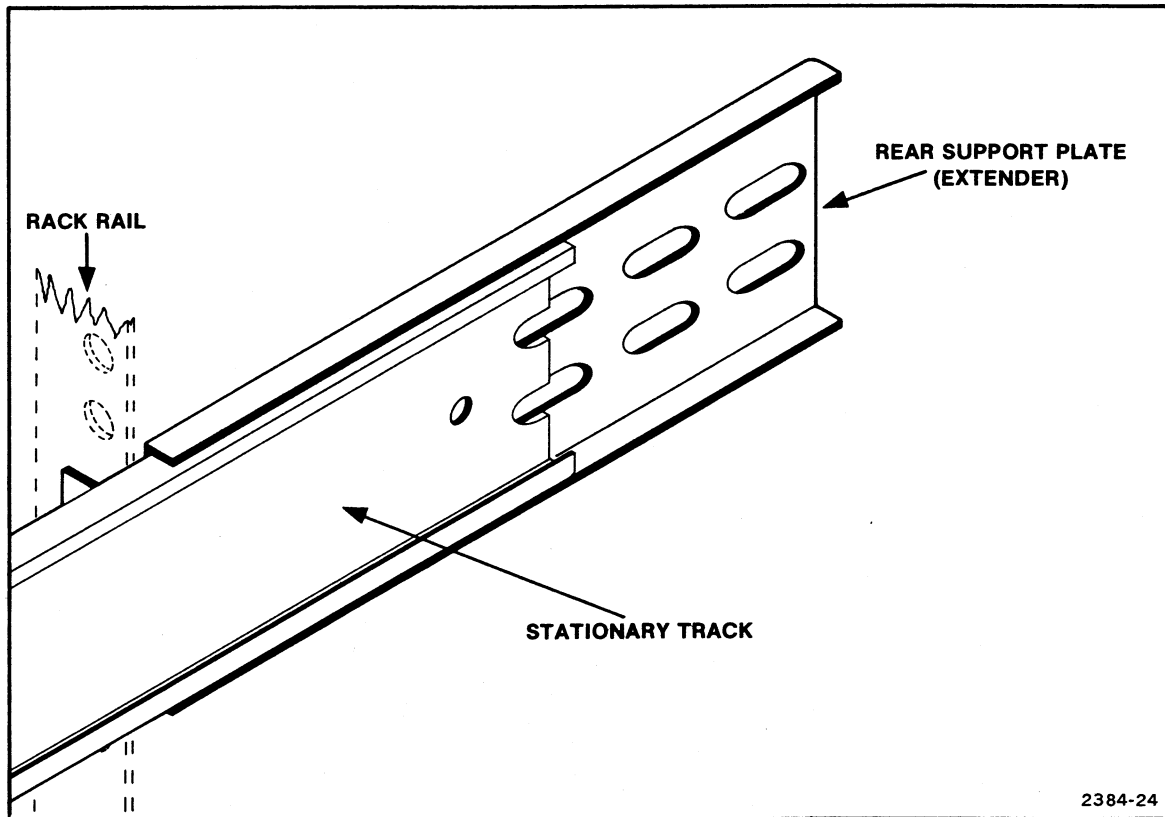

Fig. 4-2. Reversing the rear support plates for a shallow rack.
1. Adjusting for the depth of the rack, attach the rear support plates to the stationary slide tracks with bolts and barnnuts. Do not fully tighten the bolts. For shallow racks, the rear support plates can be reversed as shown in Fig. 4-2. However, the rack cabinet must allow the 7912AD to extend out the rear of the rack.